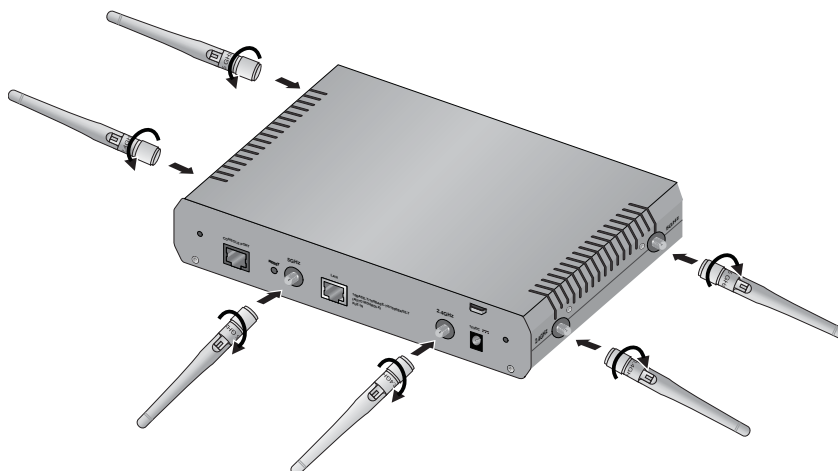

Figure 7. Installing the Antenna
2. Install the three 2.4 GHz and three 5 GHz antennas to the corresponding connectors on the sides of the unit. The connectors are labelled. Refer to Figure 7.